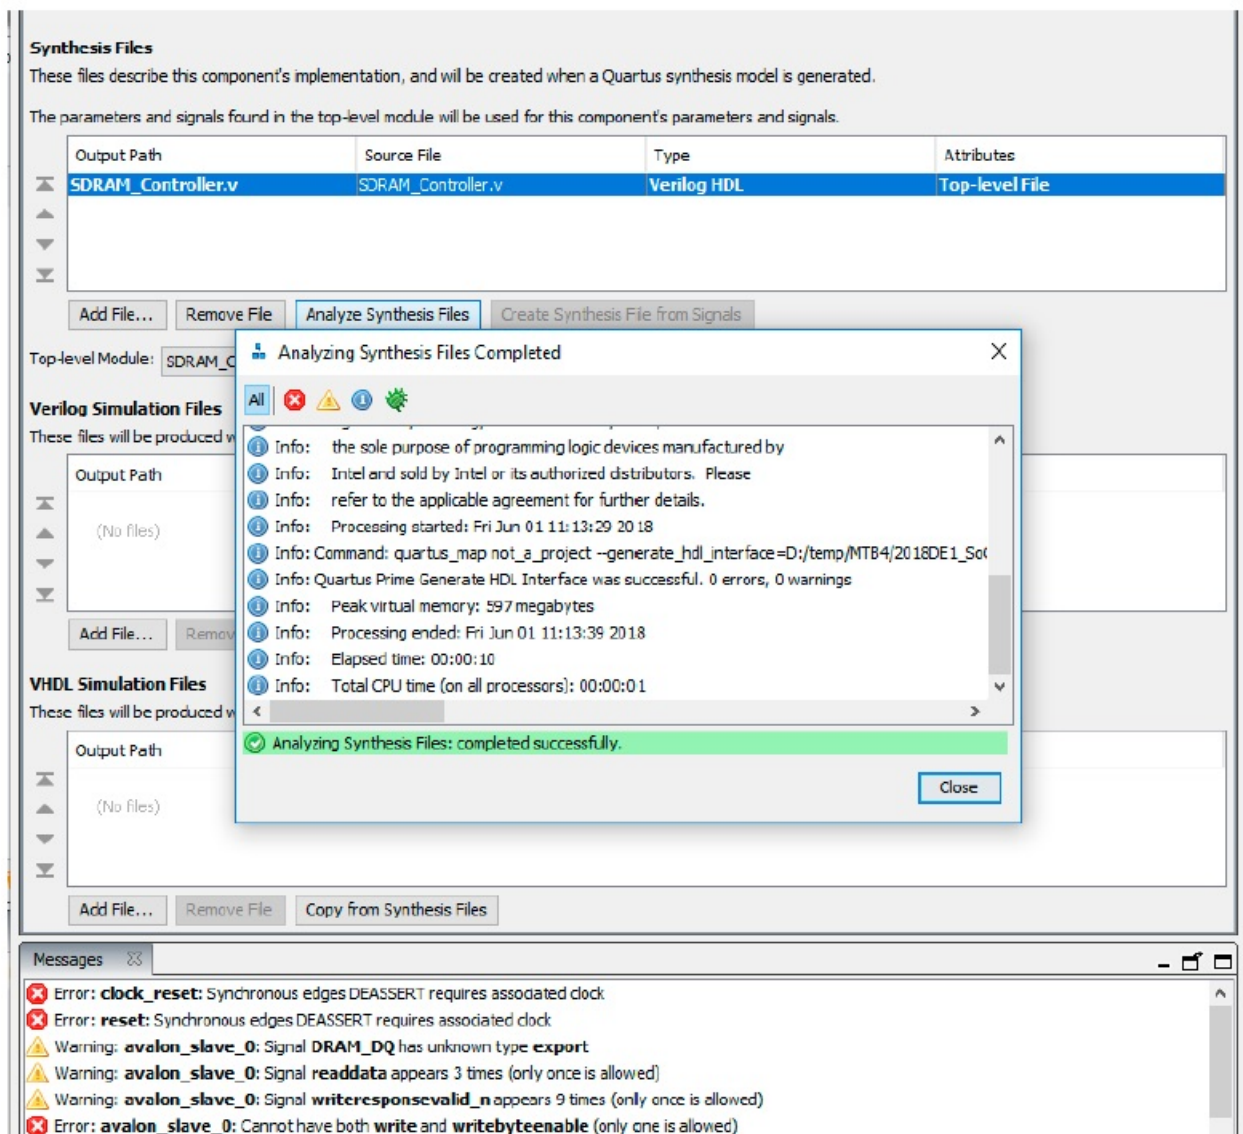

Figure 5: Specifying Files
- In the Files tab, you will need to specify the file that describes your component (Figure 5). Click on the "Add File..." button under the section "Synthesis Files" to browse and select the module `SDRAM_Controller.v`. Then click "Open" and click on the "Analyze Synthesis Files" button.